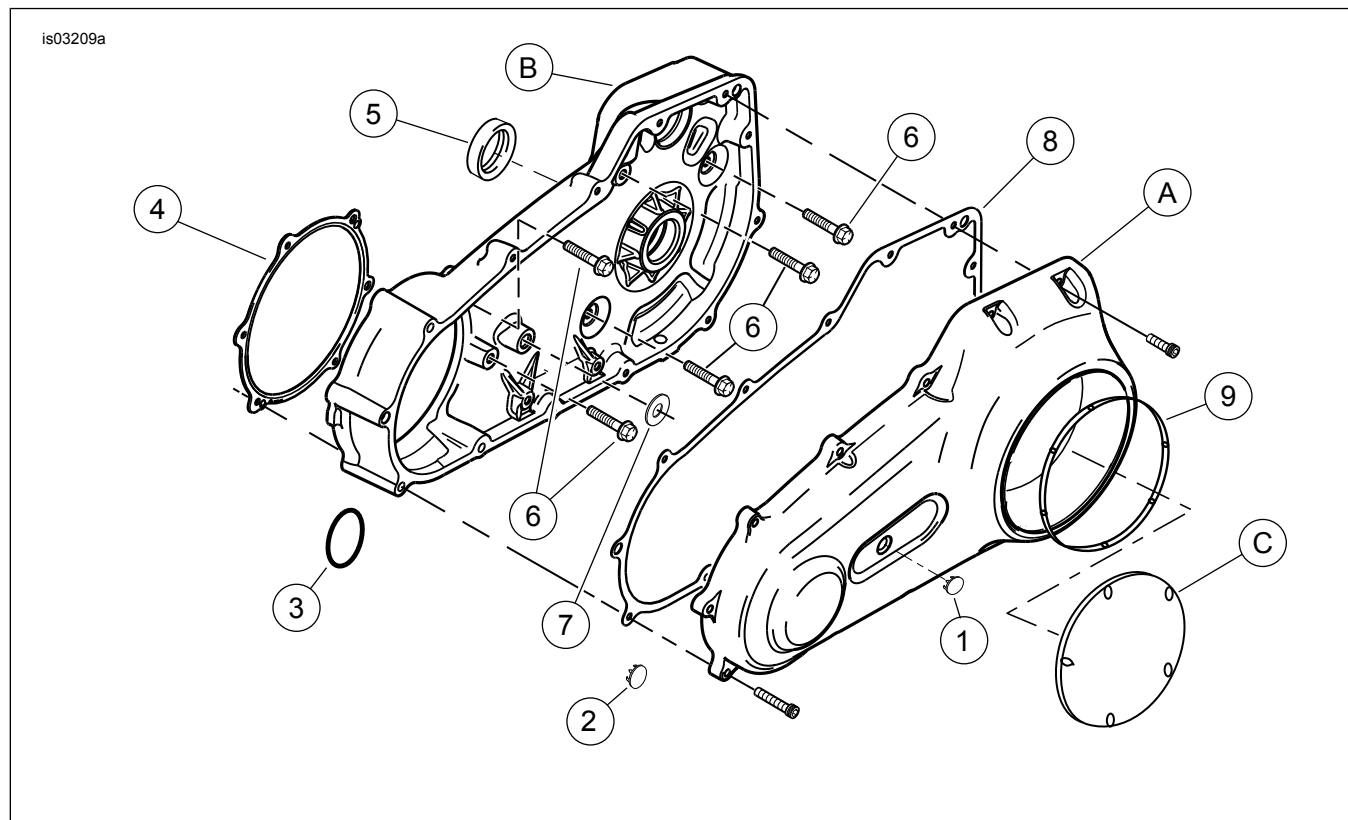
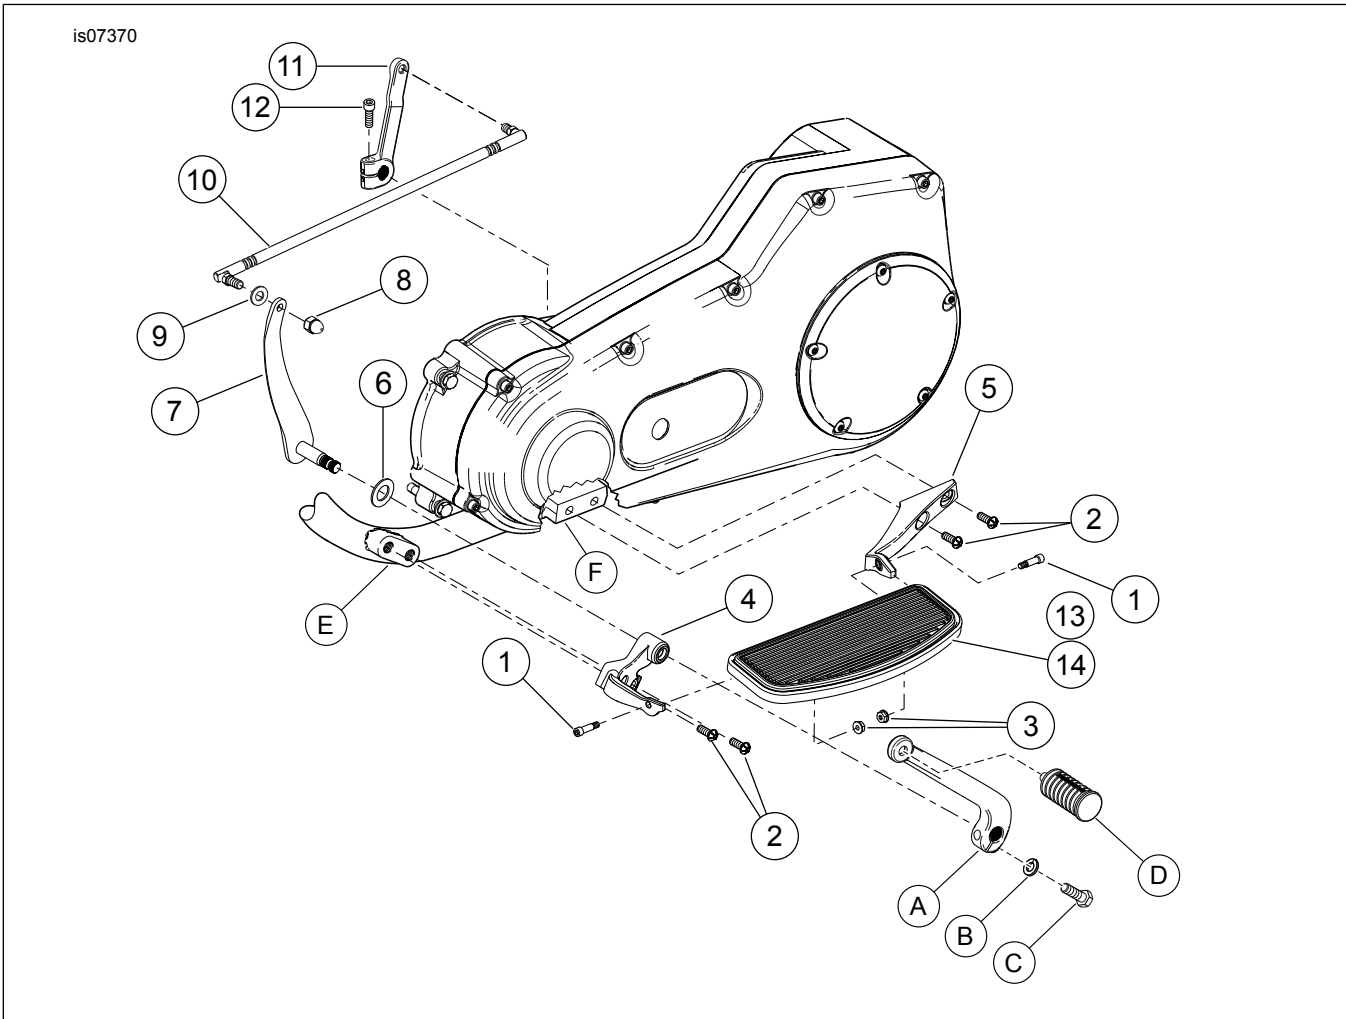

Figure 3. Primary Chaincase Cover and Housing Components
Figure 4. Dyna Rider Footboard Kit
See Figure 3, Figure 4, Figure 5 and Table Reference.
- See Figure 4. Remove plugs from forward frame footboard mount (E) and discard plugs.
- See Figure 4. Remove the foot shifter lever (A) and shifter peg (D). Save the foot shifter lever and shifter peg and hardware for future installation.
- See Figure 3. See service manual and remove the outer cover assembly (A) and inner cover assembly (B).
- Using a marking tool, draw a location marking (4) on the end of the splined shaft (2) across from the casting split (3). This will allow the new gear shifter lever to be installed in the same orientation as the old lever.
- After marking the gear shifter lever orientation, loosen the lever bolt (5) and remove the gear shifter lever (1).
- See Figure 4. From the kit, install the new gear shifter lever (11) and bolt (12) onto the splined shaft in the same orientation as the old shifter lever.
- See Figure 4. Install the front and rear footrest brackets (4 and 5) to the frame using the buttonhead TORX® screws (2). Tighten screws.
8. See Figure 4. Install the front inner gear shifter (7) and washer (6) to inside of the front footboard bracket.
9. Install the previously saved gear shifter (A) with a coat of light lubricant. Install washer (B), screw (C), and shifter peg (D) to the gear shifter. Tighten screw (C).
12. See Figure 3. Put inner primary cover (B) and primary cover (A) in position and check for proper clearance with shifter linkage components.
16. See Figure 3. See service manual. Install primary cover using new gaskets from the kit.
17. See Figure 4. Install footboards (14) to brackets (4 and 5) using shoulder bolts (1) and flange nuts (3). Tighten screws.